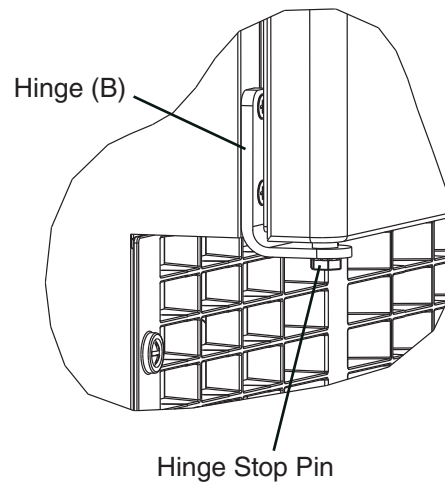

**Fig. 5**
- 5) Rotate the top panel 180° from its previous position. This brings the notch that was previously in the right rear to the left front. See Fig. 5. Hook the rear part of the panel on the body, then secure the front with the 2 bolts removed in step 2.